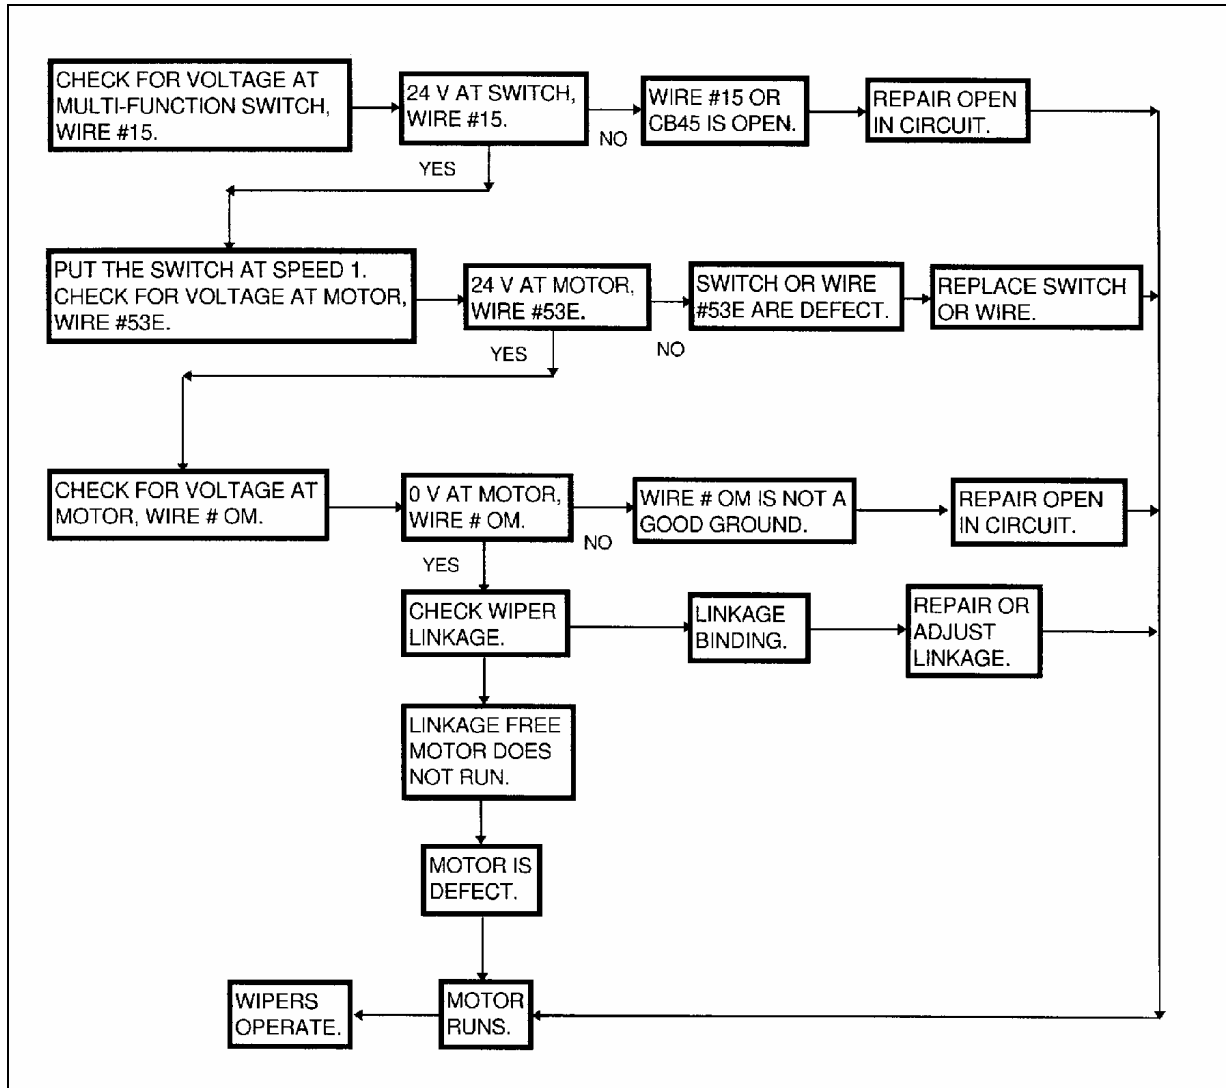

FIGURE 38: TROUBLESHOOTING
7. Loosen the bolt retaining the lever at the end of the motor driving shaft (Fig. 38).